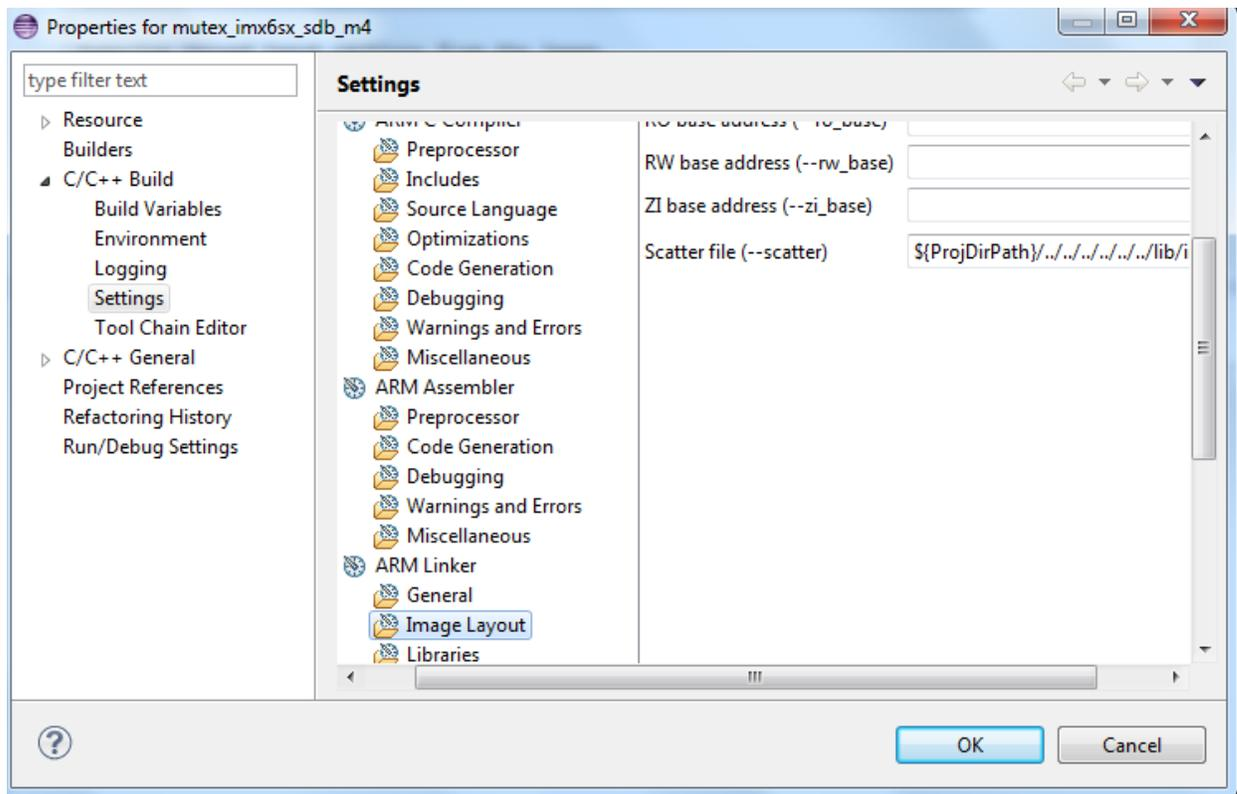

Figure 2 Changing the link file
- Change the link file flash.scf to ram.scf, as shown in Figure 2.